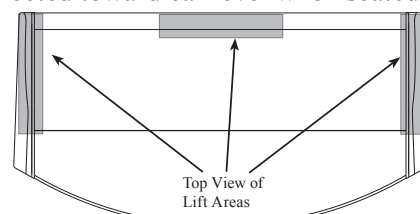
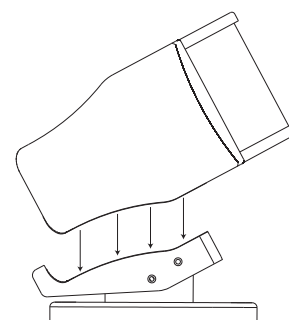

Figure 13
Figure 14
5. Referring to the lift areas in figure 13, lift up on the sides and center rear of the Loudspeaker with two or more persons. Place the Loudspeaker on the Cradle. Refer to figure 14.